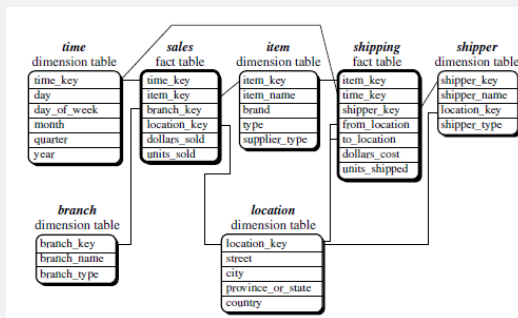

Figure 6: Sample Fact Constellation Schema
- The schema in figure 6 specifies two fact tables: *sales* and *shipping*.